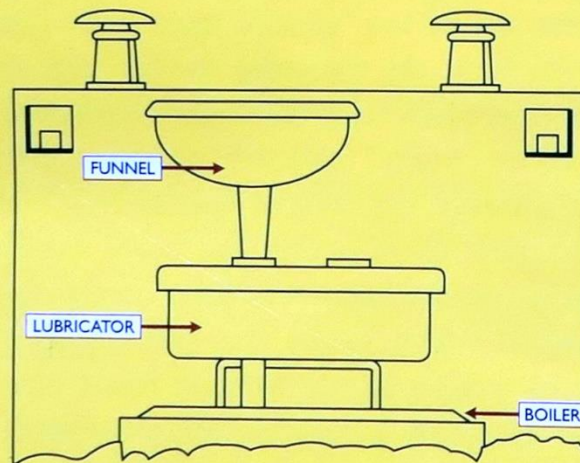

Fig. 2
- 4.2 **Filling the Lubricator.** Cylinders and valves must be well lubricated. This involves filling the lubricator with **Morris 460 steam oil** before every operation. This is particularly important with a new engine during running in. The lubricator is located inside the smoke box. To obtain access pull the whole smoke box straight out from the front of the locomotive taking care to lift the front of the smoke box in order to clear the smoke box support from the centre lamp bracket above the front buffer beam. When filling both lubricators, remove the two plugs and hold the locomotive in a vertical position (**Fig. 2**) Using the funnel provided fill with steam oil. Air will escape from the other plug. After filling the plugs should be screwed firmly onto the fibre washers. The fibre washers are of the "captive" type and are threaded on the inside. Spare fibre washers are provided for the lubricator, safety valve, burner filler cap and whistle. To remove fibre washers unscrew from the thread, select the correct size and screw carefully back into position.